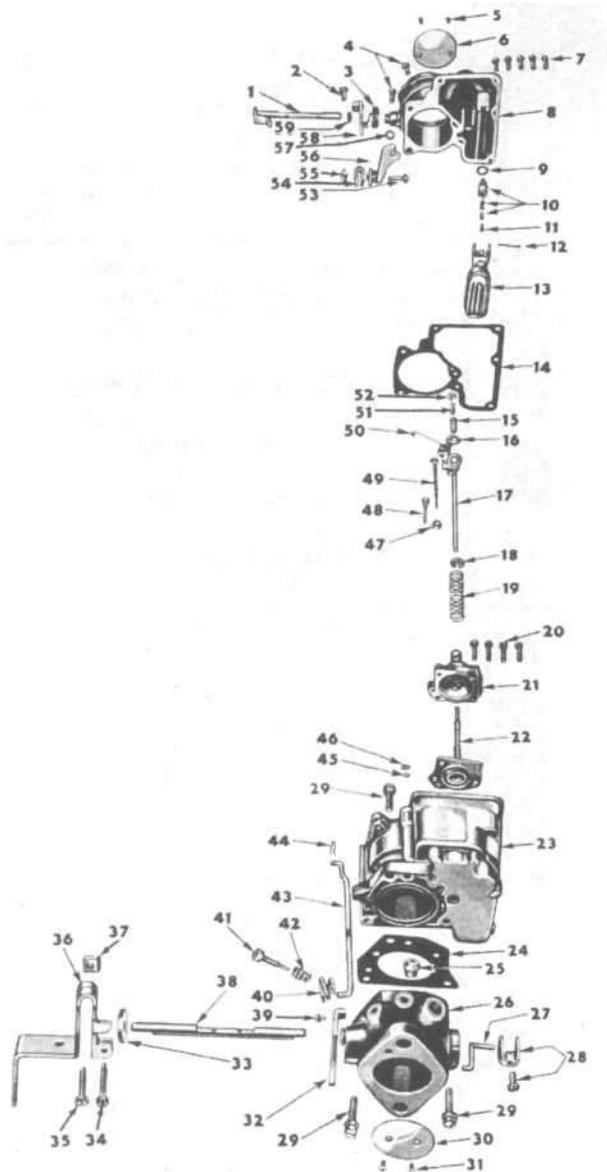

FIG. 133—YF-951S CARBURETOR—
- a. Remove pin springs No. 43, fast idle connector rod spring No. 40 and fast idle connector rod No. 42. See Fig. 133.